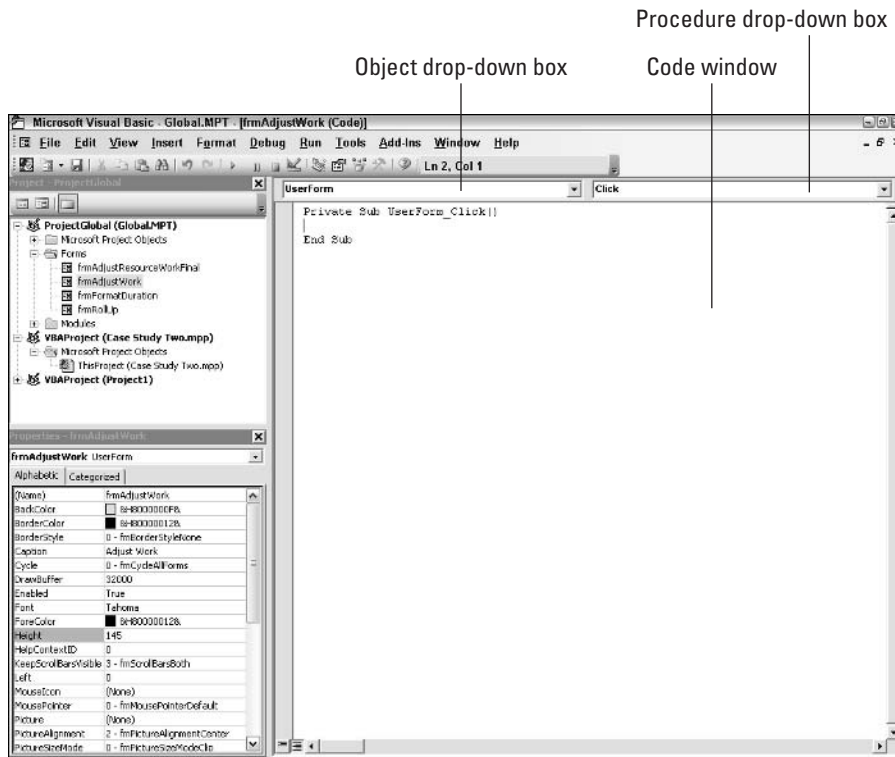

Figure 25-20: The Code window for the UserForm allows you to add resource names to the ComboBox when the UserForm loads.
1. Click anywhere on the UserForm (other than directly on a control), and choose View⇄Code. The Code window for the UserForm appears, as shown in Figure 25-20.